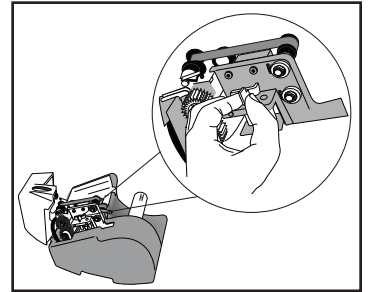

Figure 16
3. Remove Blade. (See Figure 16)